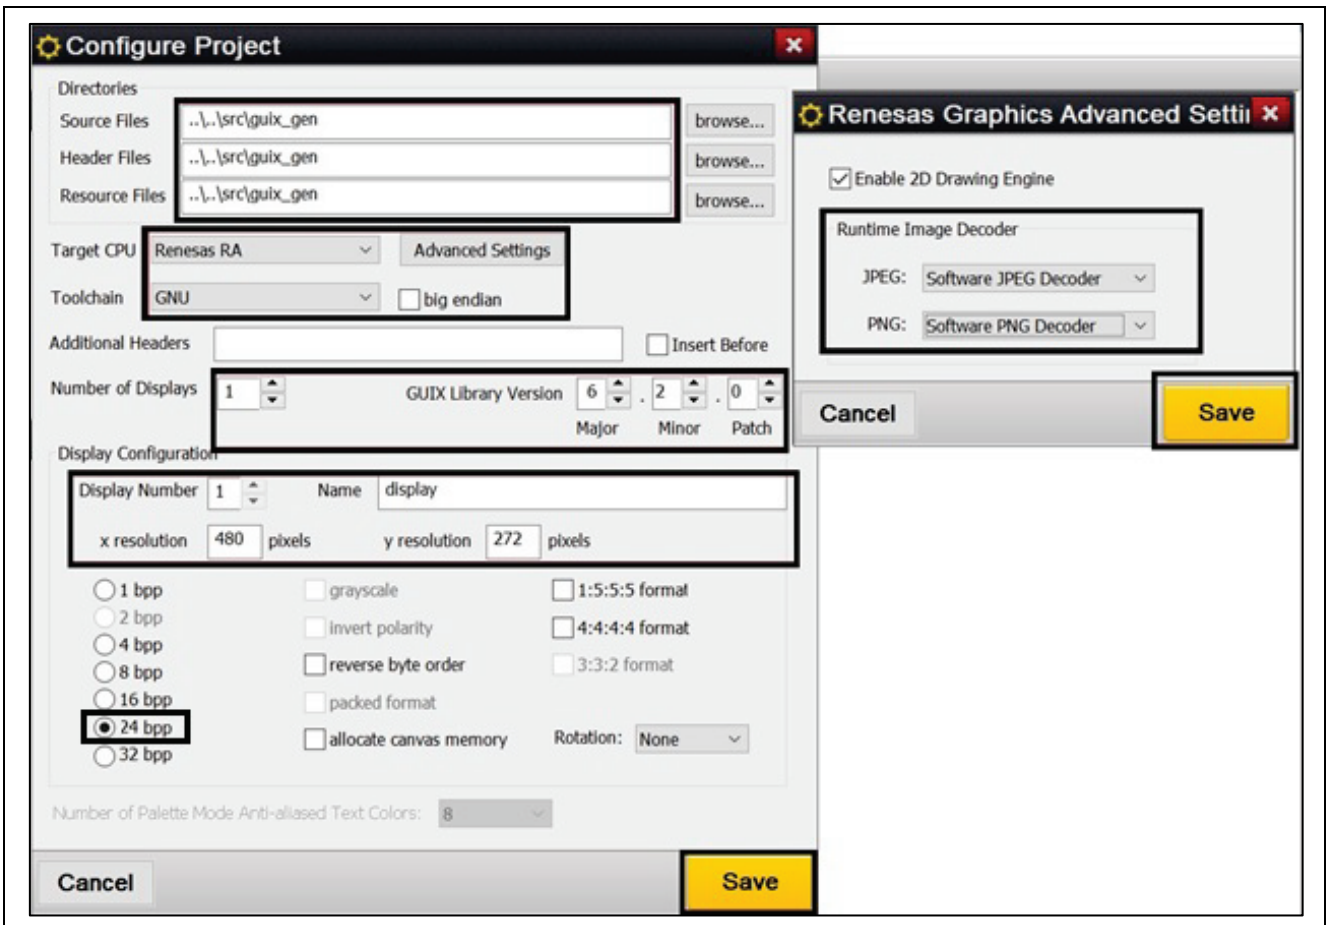

Figure 40. Configuration New Project "Hello World" with Advanced Settings
3. A new **Configure Project** window will pop up and user needs to set all the options as shown in **Figure 40**. included Advanced Settings. Finally, click **Save**.